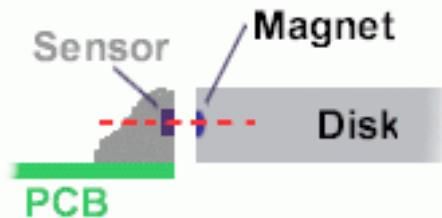

Figure 3 Ensure correct alignment of magnet disk and sensor.
- Rotate the disk in rotation direction until the S-marked Magnet is close to the sensor (arrow, picture (1)). Take care that the magnets in the disk are approximately in the same height as the sensor.
- Take care that the magnets in the disk are approximately in the same height as the sensor, see figure 3.